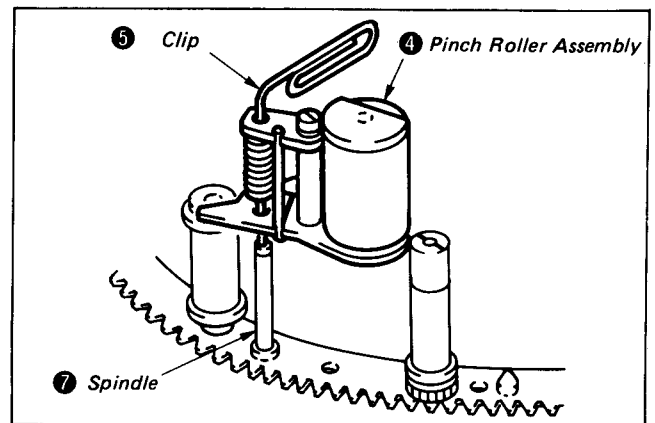

Fig. 8-23.
- 3) Recontact the loading ring assembly spindle ⑦ with the tip of the clip ⑤ and fit the pinch roller assembly ④. (See Fig. 8-23 and 24.)